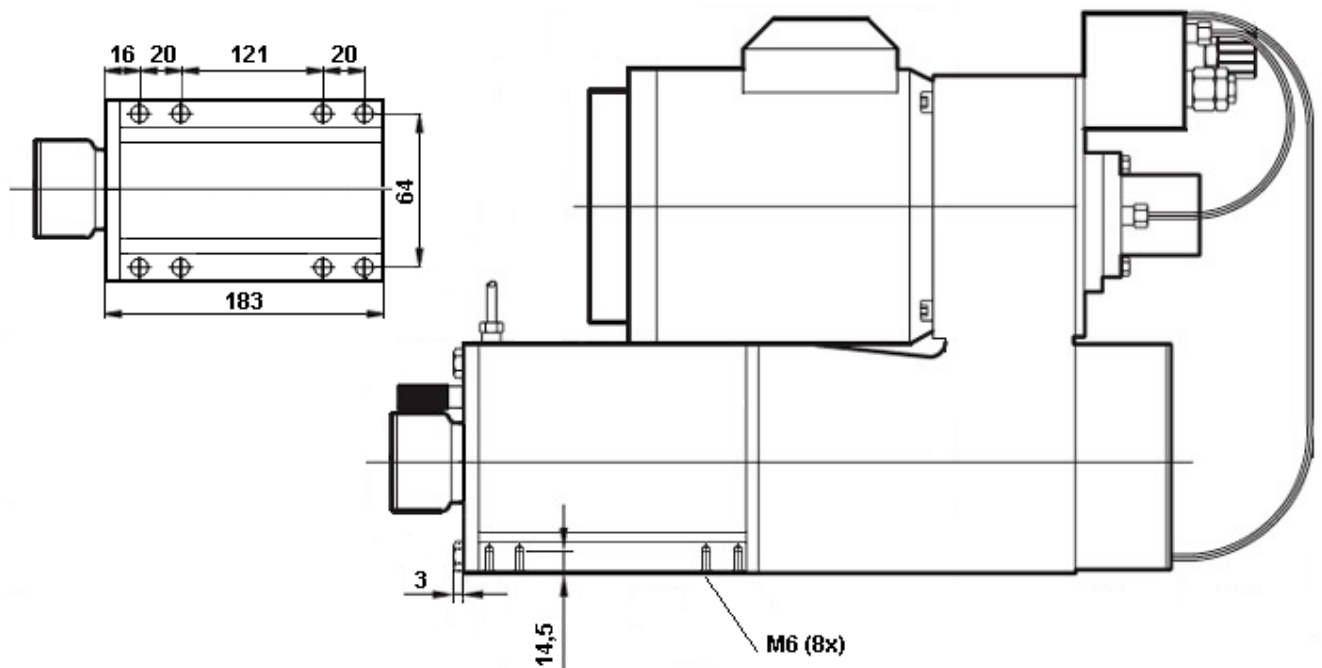

Fig. 1a.
4. The unit must always be mounted on a flat surface (machined) and attached with belonging brackets or own arrangements. See Fig 1a and Fig 1b.